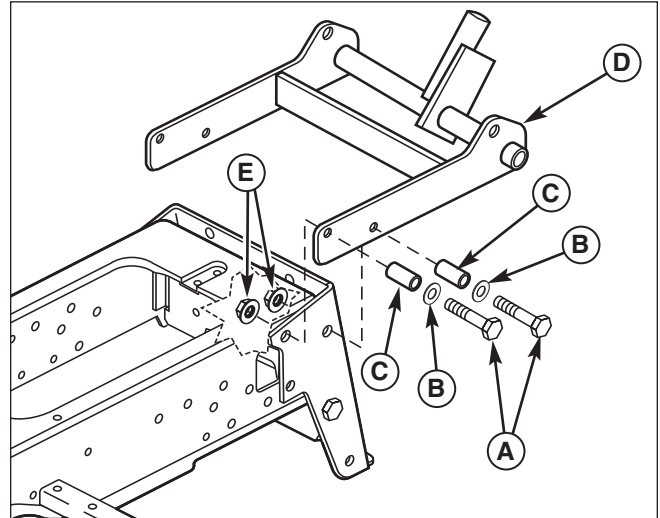

Figure 6. Rear Hitch Installation
4. Install the rear hitch (D, Figure 6) using the holes shown. Secure with four 1/2-13 x 2" capscrews (A), washers (B), spacers (C), and nylock nuts (E).